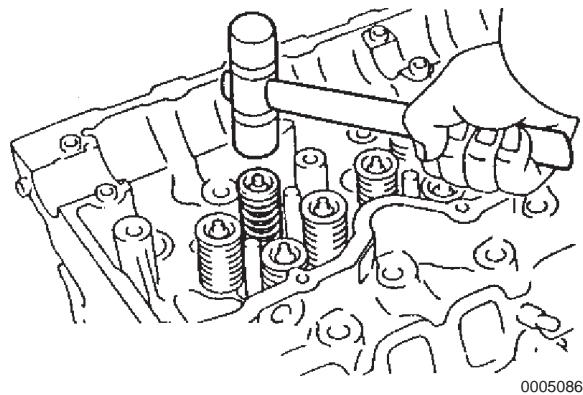

Figure 5-59
- Tap the tip of the valve stem with a plastic hammer to seat the valve spring retainer (Figure 5-59).